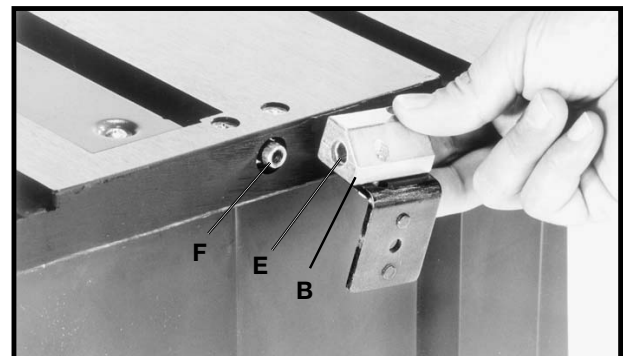
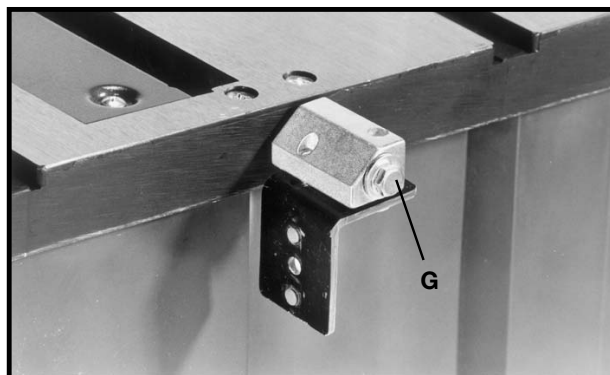

Fig. 16
Fig. 17
5. Position recessed end (E) Fig. 16, of splitter bracket (B) against end of pivot rod (F) and fasten in place using assembly from STEP 4 above. **NOTE: Do not completely tighten screw (G) at this time.** Assembly shown in Fig. 17.